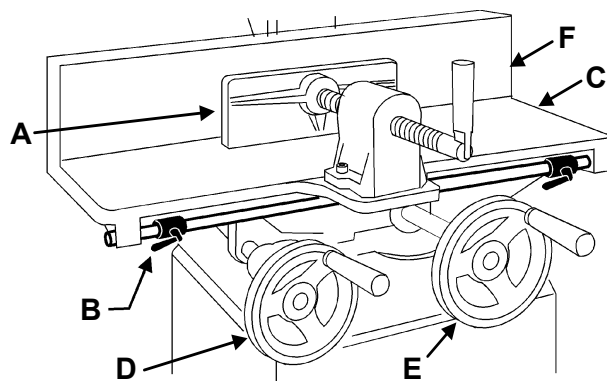
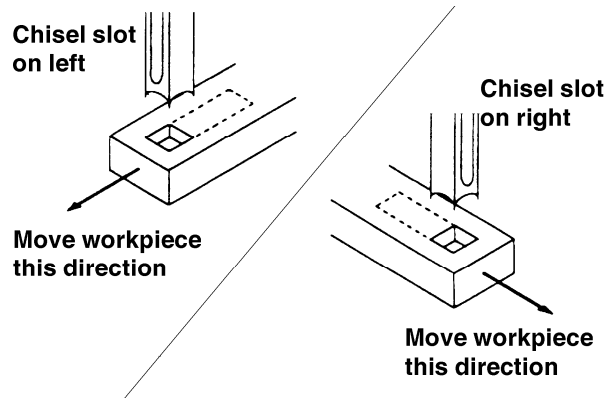

Figure 18
Figure 19
5. Place workpiece on table (C, Fig. 18) and clamp it with the vise (A, Fig. 18). Use the left handwheel (D, Fig. 18) to move table forward or backward to suit the position of the mortise on the workpiece.
6. Adjust the table stops according to the length of cut required, then tighten the *thumbscrews* (B, Fig. 18).
8. After the first cut, the workpiece is moved along with the right handwheel (E, Fig. 18) for each successive cut. The direction of movement must allow the chips to clear freely. Move the workpiece so that the slot in the chisel is releasing chips into the already cut part of the workpiece (Figure 19).